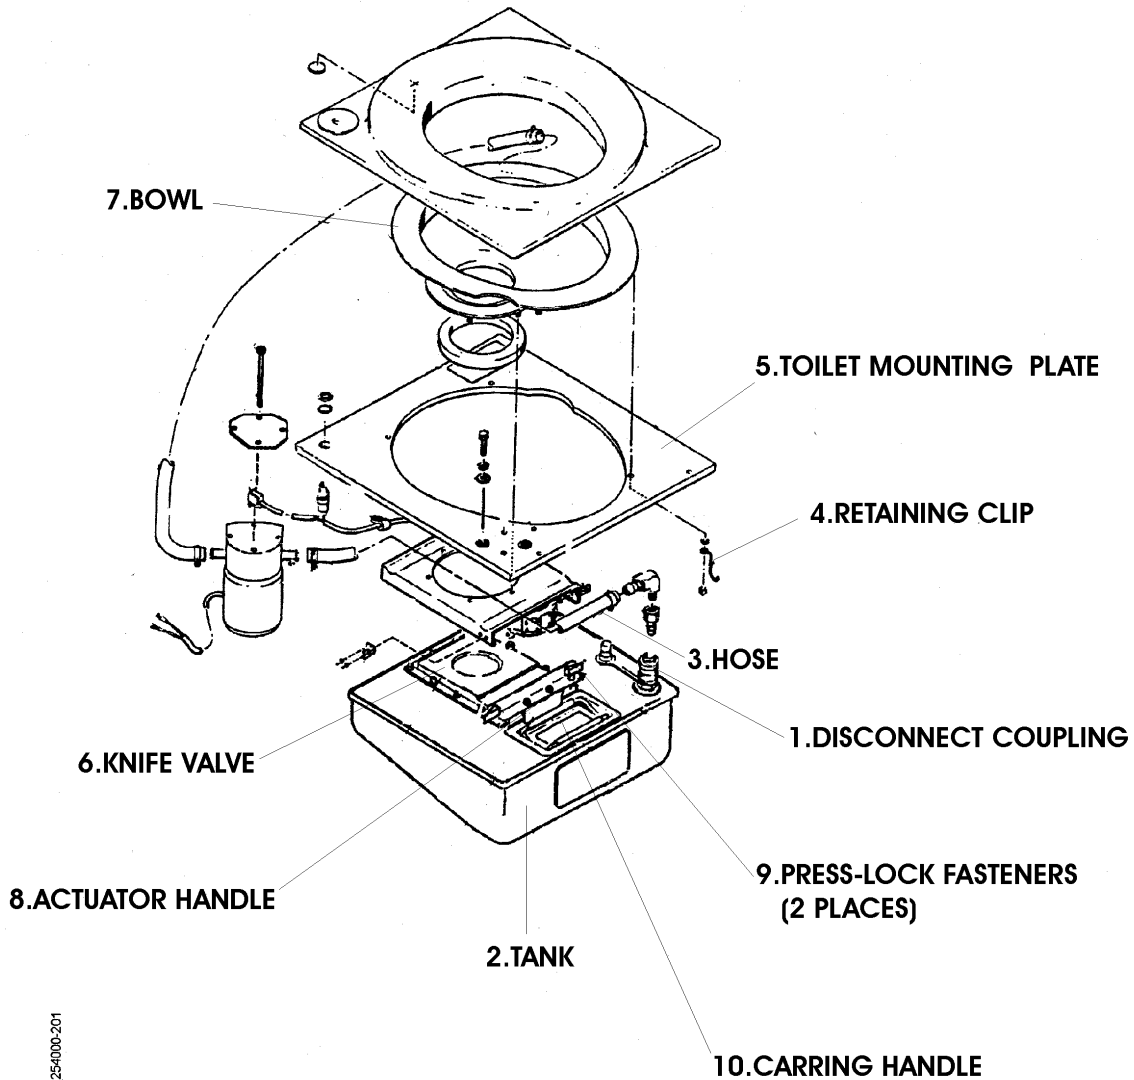

Fig. 201 - Removable Tank - Removal/Installation
2. Removable Tank - Installation (Ref. to Fig. 201)